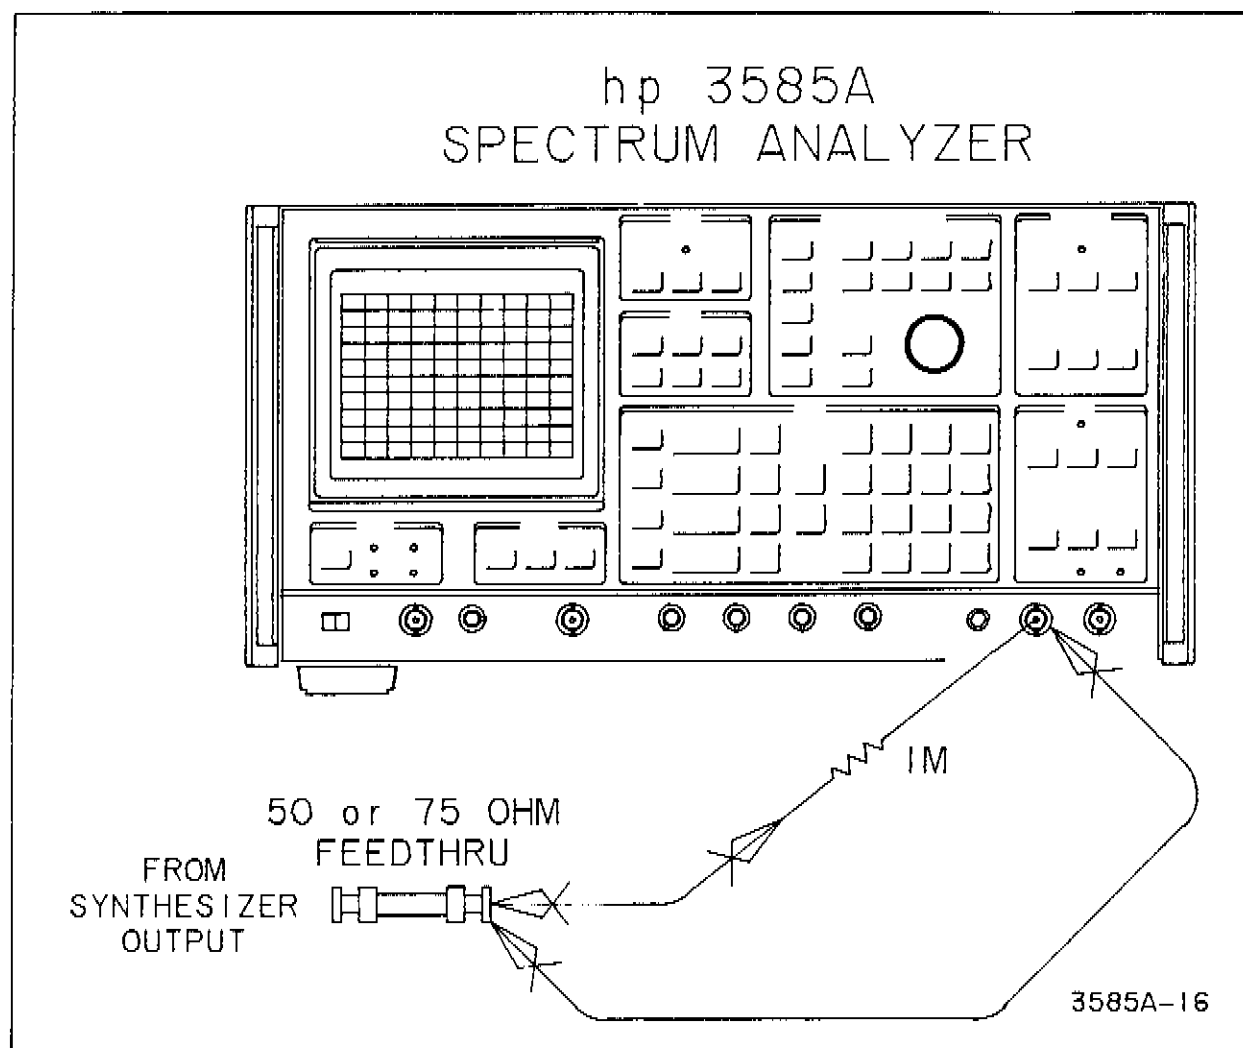

Figure 4-18. 1 M ohm Input Impedance Test.
e. Using short clip leads, insert the 1 M Ω resistor between the output of the termination and the 3585A 1 M Ω input as shown in Figure 4-18.